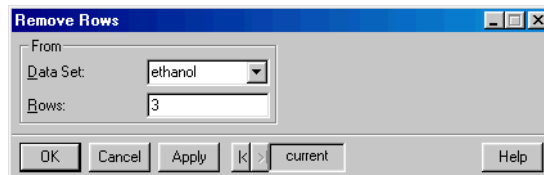

Figure 2.30: *The **Remove Rows** dialog.*
- From the main menu, choose **Data ► Remove ► Row**. The **Remove Rows** dialog opens, as shown in Figure 2.30.